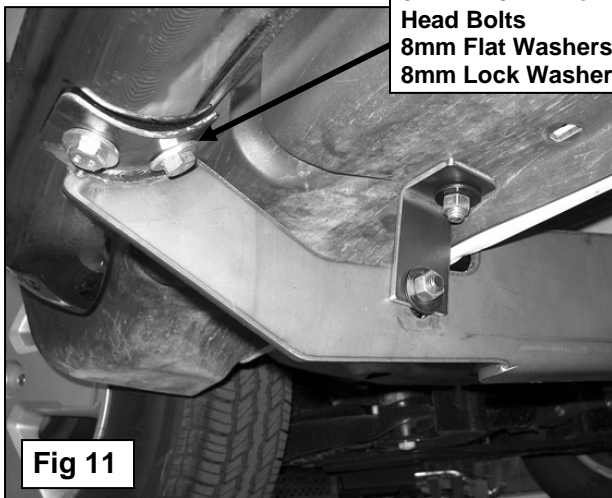

Fig 11
10. Carefully position the driver Sidebar onto the Mounting Brackets and secure using (4) 8mm x 25mm Hex Head Bolts, (4) 8mm Flat Washers and (4) 8mm Lock Washers, **(Figure 11)**. Snug but do not tighten hardware at this time.